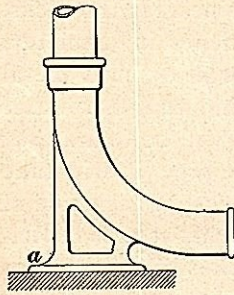

FIG. 34
**52.** Cast-iron soil and vent pipes should be strongly secured in place. Vertical stacks should rest on a solid support at the bottom. If an elbow occurs at the base of the stack, it should be provided with a flat foot, or **heel rest**, as shown at *a* in Fig. 34.